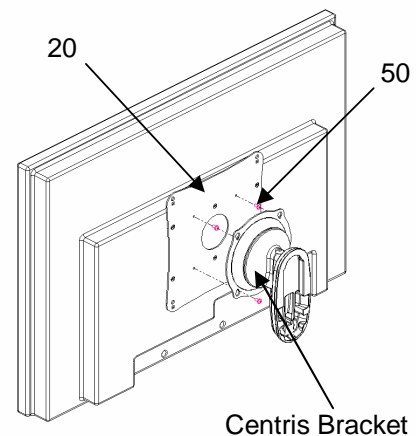

Figure 7. Attach Display to Centris Bracket
1. Start two M4 x 8mm Phillips pan head screws (50) into top mounting holes on VESA Plate (20).
2. Align mounting holes on Centris bracket with screws installed in Step 1 (see Figure 7).
3. Install remaining two M4 x 8mm Phillips pan head screws (50) into bottom mounting holes of VESA Plate (20).